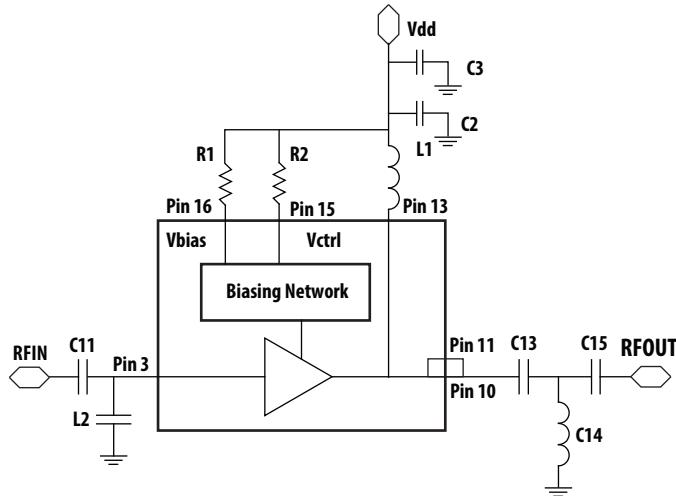

Figure 46. Circuit Diagram
1. V_{bias} and V_{ctrl} can be externally controlled by change external biasing resistors $R1 = R_{bias}$ and $R2 = R_{ctrl}$ (as shown in Fig. 46).
1. Vbias and Vctrl can be externally controlled by change external biasing resistors $R1 = Rbias$ and $R2 = Rctrl$ (as shown in Fig. 46).